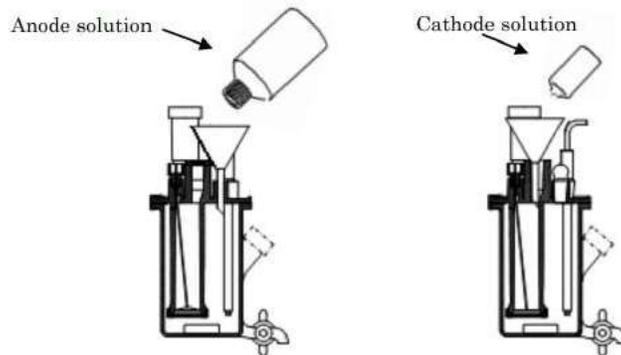
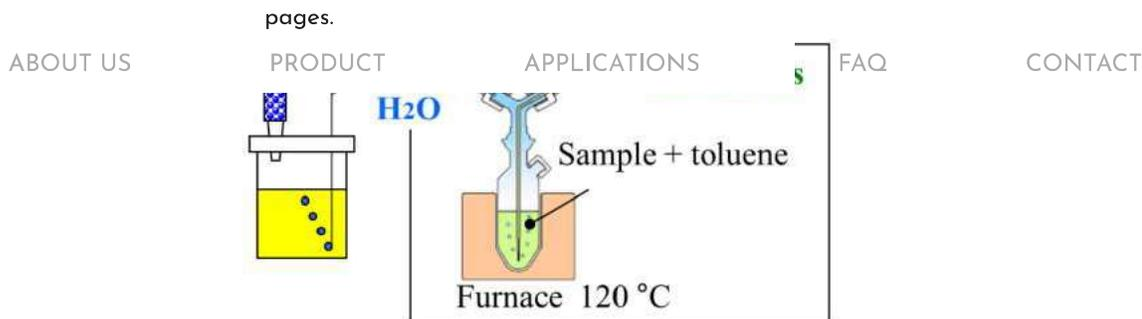
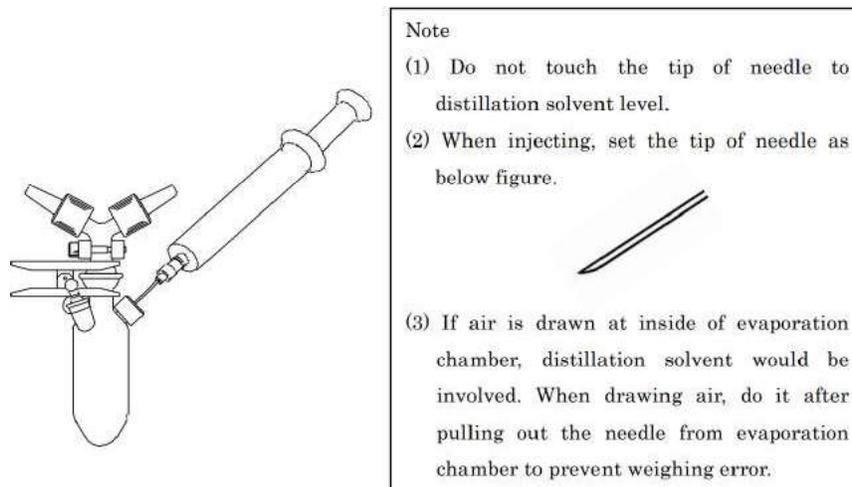

Fig.3.1. Preparation of the reagents.
Fig.3.3. Schematic diagram of azeotropic distillation method.
Fig.3.4. Sample injection into evaporation chamber.
- (1) Fill 100 mL of anode solution and one ampoule of cathode solution into the electrolytic cell as shown in Fig.3.1.
- (2) Cool the inside of the cell by circulating 5 °C cold water in the cooling chamber and wait until the temperature stabilizes.
① When using this homepage, we recommend Chrome browser. Chrome can translate web pages.
(1) Fill 100 mL of anode solution and one ampoule of cathode solution into the electrolytic cell as shown in Fig.3.1.
(2) Start blanking to attain stable background.
(3) Connect electrolytic cell and evaporation chamber with tube. Flow carrier gas with 50 mL/min.
(4) Fill 5 mL of distillation solvent in evaporation chamber and heat the chamber at 120 °C.
(5) Keep blanking to attain stable background with carrier gas flowing into electrolytic cell.
(6) Wash the syringe with sample.
(7) Draw the sample into syringe and then weigh the syringe.
(8) Inject sample from rubber septum of distillation chamber as shown in Fig.3.3 and Fig.3.4.
(9) Start titration. Measurement parameter is shown in Table 4.2.
(10) Weigh the syringe again and then set the difference of weight to sample size.